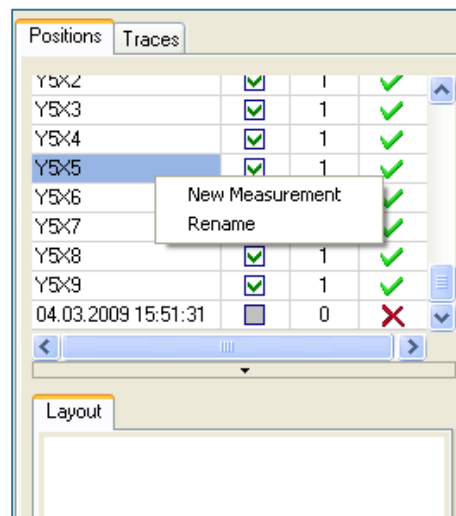

Figure 52: Adding new measurement in the positions table
2. The **custom measurement** – there is more-less unlimited number of measurements which can be performed. By right clicking the positions table and then choosing the “New Measurement” menu item from the pop upped context menu (see **Figure 52**) new row representing a custom measurement is added at the bottom of the list. Name of the measurement is set to current date by default, but can be changed anytime (context menu -> rename option). No protective attenuator data are added to the measured values.